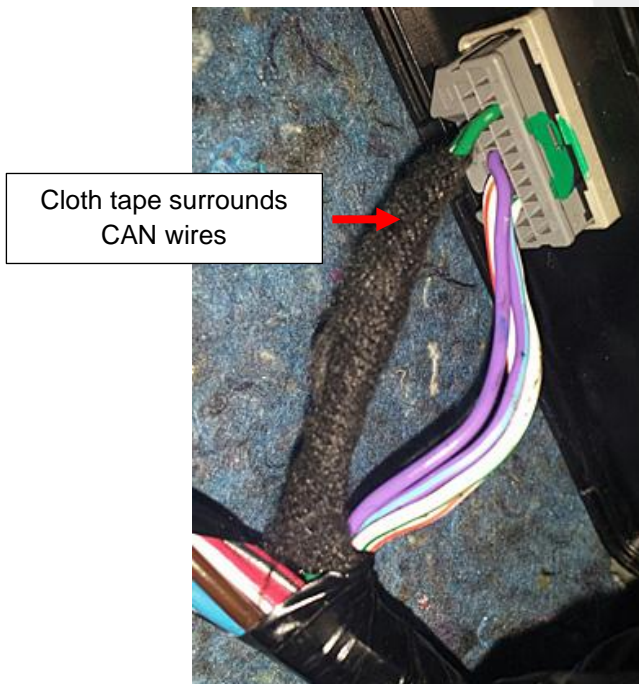

Figure 2
3. On the lower EPB harness, wrap the 2 CAN wires together with cloth tape (Figures 2 and 3):